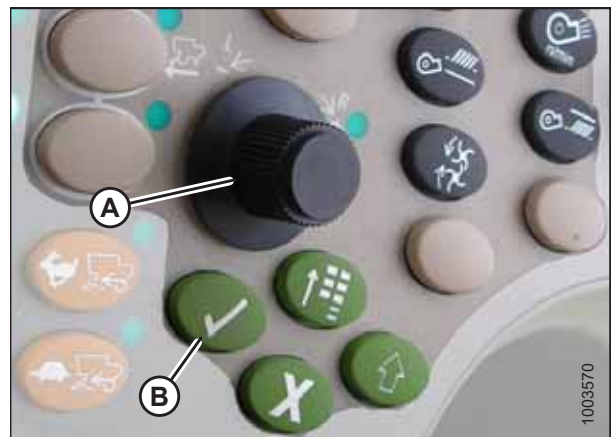

Figure 6.274: John Deere Combine Control Console
- Select HEADER in box (A) by scrolling down to the box using the scroll knob, and then pressing the check mark button (knob and button are shown in Figure 6.274, page 291).
- Scroll down to the lower right icon that resembles an arrow in a diamond (B) and press the check mark button to select it.